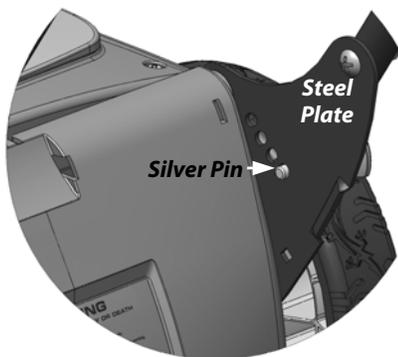

**Figure 3**
2. Lay the Handlebar on top of the Mower and align the two (2) holes as shown in **Figure 3**.